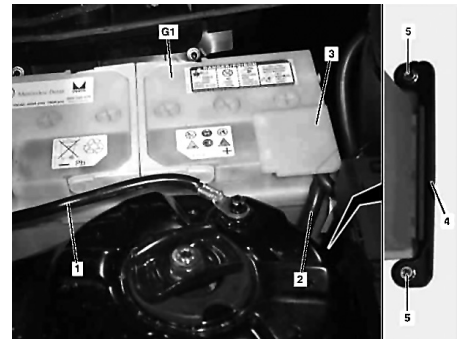

Fig. 1 Battery removal
4. Detach ground cable (1) from battery, Fig. 1.
5. Remove positive terminal cover (3), Fig. 1.
6. Detach positive cable (2) from battery, Fig. 1.
7. Remove battery mounting nuts (5), Fig. 1.
8. Remove battery mounting bracket (5), Fig. 1.
2. Install battery mounting bracket (5), Fig. 1.
3. Install battery mounting nuts (5), Fig. 1.
4. Attach positive cable (2) to battery, Fig. 1.
5. Install positive terminal cover (3), Fig. 1.
6. Attach ground cable (1) to battery, Fig. 1.